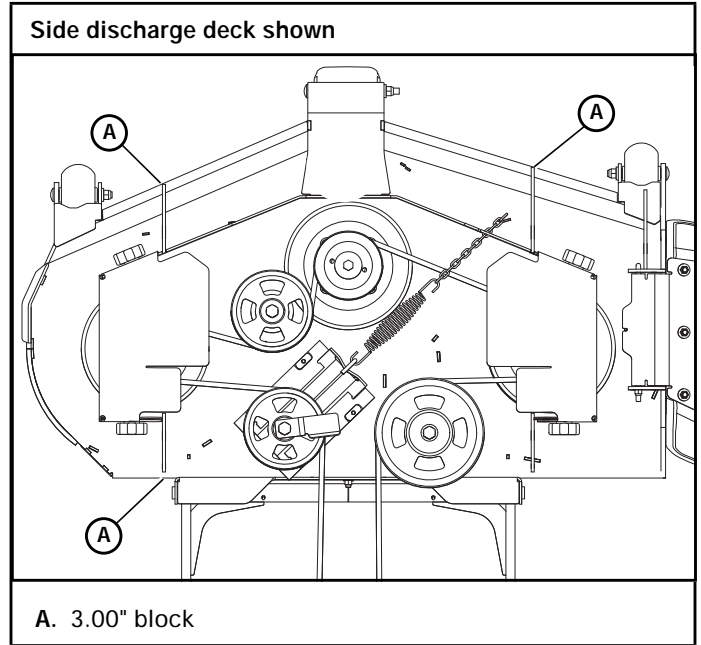
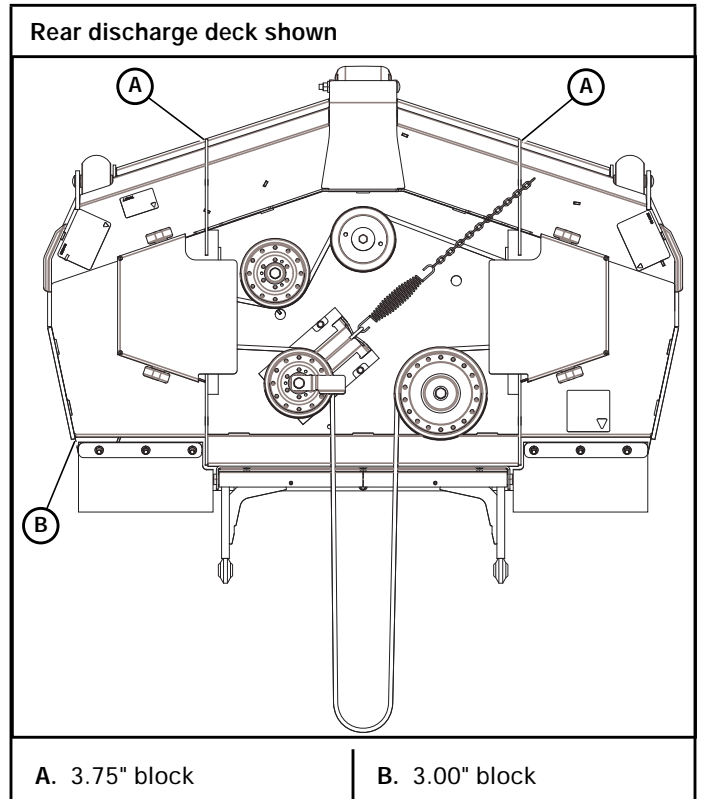

Figure 8-1
Figure 8-2
3. **Side Discharge Decks** – Place 3" (76.2 mm) high deck support blocks (two stacked 2" x 4" blocks can be used to create a 3" [76.2 mm] high support) at the three points of the deck as shown. Figure 8-1
**NOTE:** Back of deck will automatically be set 1/4" (6.35mm) higher. Figure 8-1 & Figure 8-2
**Rear Discharge Decks** (Figure 8-2) – Place two 3.75" (95.3 mm) high deck support blocks (two stacked 2" x 4" blocks and one 1" x 4" can be used to create a 3.75" [95.3 mm] high support) at the front of the deck as shown.